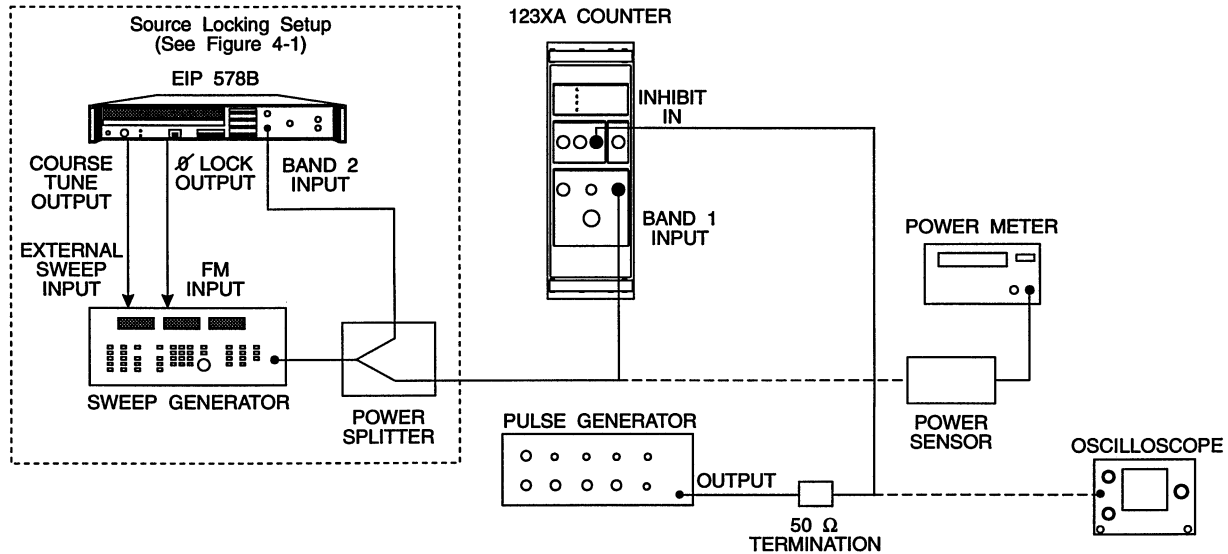

Figure 4-4. Band 1 Frequency Range and Sensitivity Test Setup.
1. Connect equipment as shown in Figure 4-4.